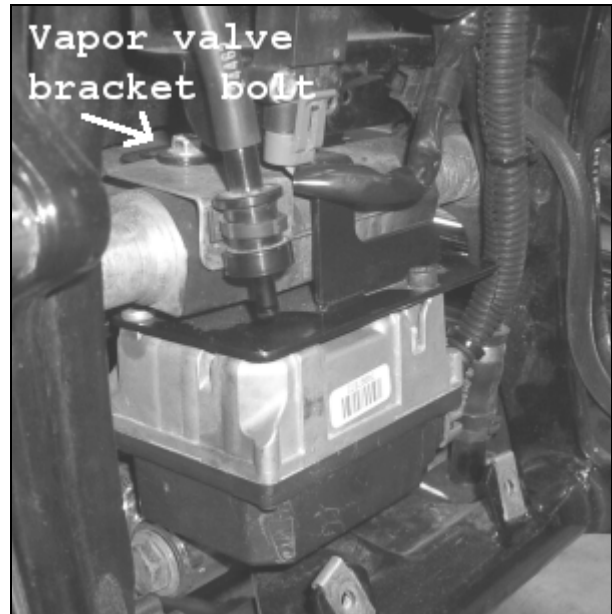

Figure 3. Cruise Control Module Installed
4. See Figure 3. Remove vapor valve bracket bolt. Position cruise control module bracket on motorcycle such that the top mounting hole is aligned with the vapor valve bracket hole and is on top of vapor valve bracket. The lower two cruise control module bracket bolt holes will line up with holes in the transmission casting. Position nut retaining plate on top of transmission casting over the two holes. Apply liquid thread lock to provided $\frac{1}{4}$ " bolts and insert through cruise control bracket, through transmission casting
5. Secure CCWH to main circuit breaker wire harness using supplied cable ties. See Figure 3 – CCWH is visible to right of cruise control module.